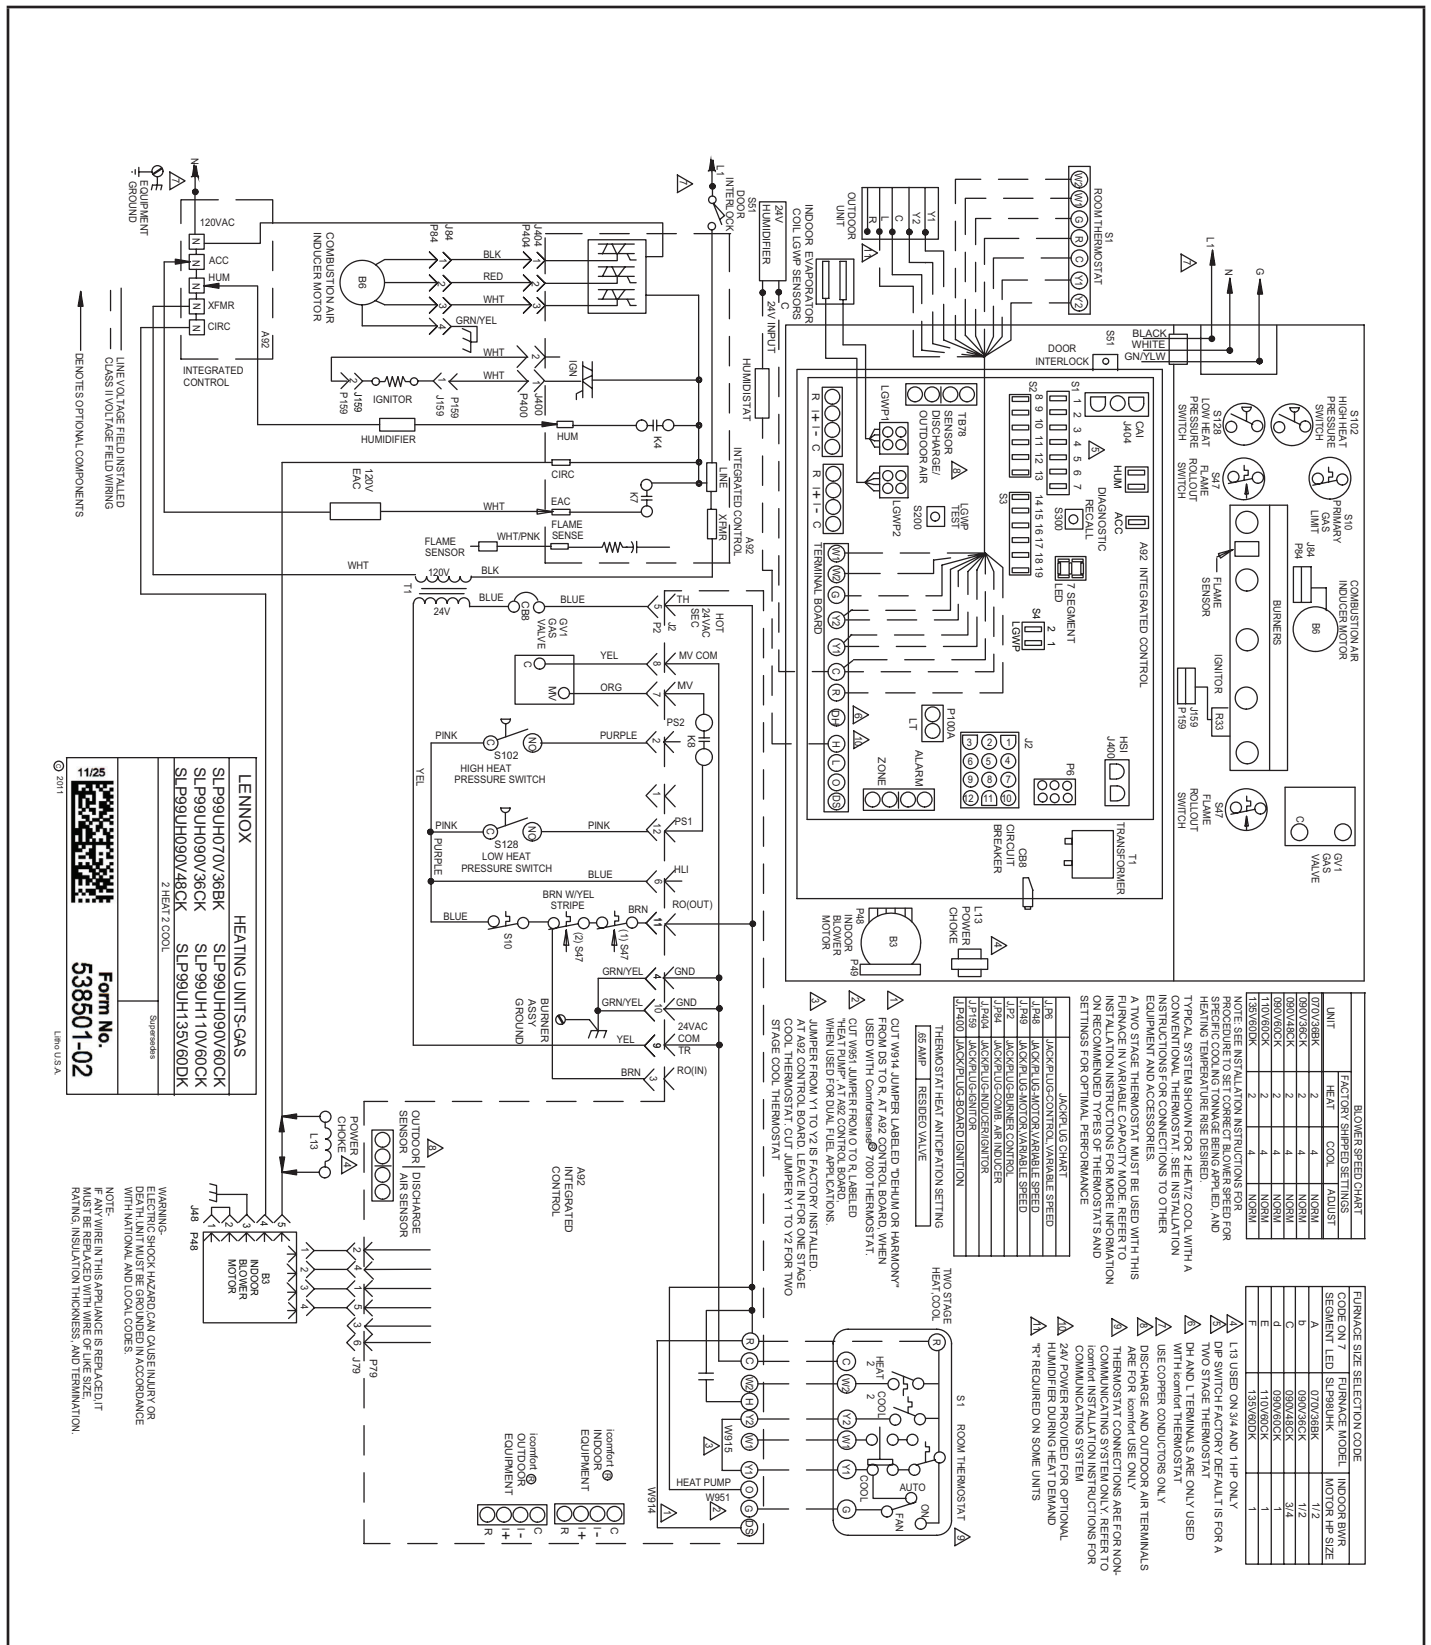

FIGURE 57
- 5 - Complete the wiring connections to the equipment. Use the provided unit wiring and field wiring diagram shown in FIGURE 56 and FIGURE 57 and TABLE 15. Use 18-gauge wire or larger that is suitable for Class II rating for thermostat connections.